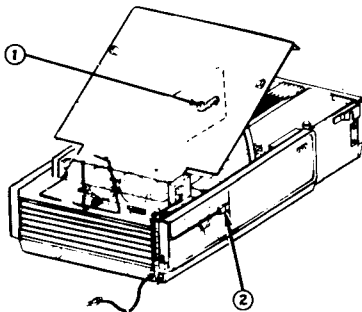

Fig. 38
Step 20 — Cable routing and connections (Fig. 38, 39 and 40):
- ① Slide module back into the cabinet far enough to engage the latch on the right side of the cabinet.
- ② Reach in and connect the ac power cable to the base of ventilation assembly.